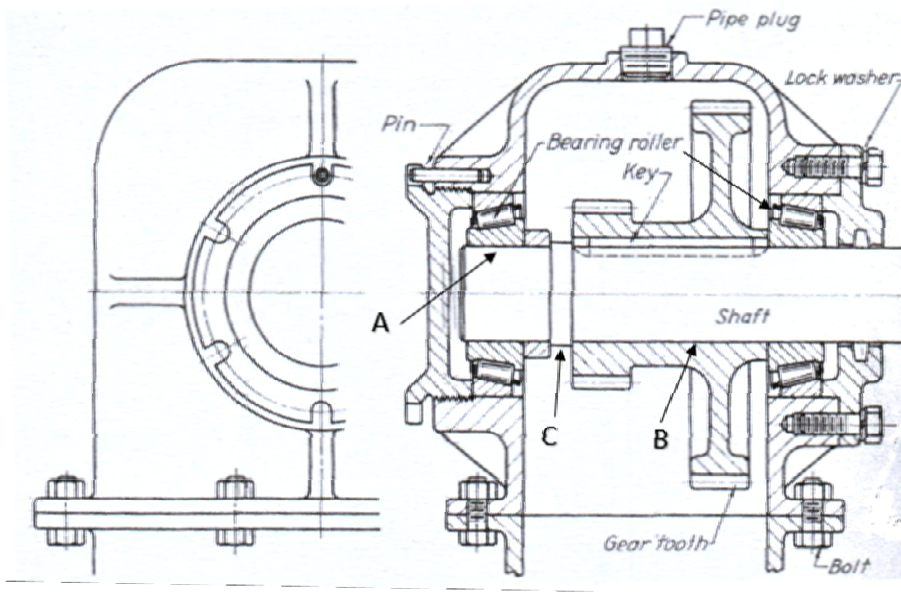

Figure 4
A spur gear is mounted on a stepped shaft through a key as shown in Figure 4. The shaft is mounted on two roller bearings at the two ends. Dimensions of the shaft are as given in the table below: (15)